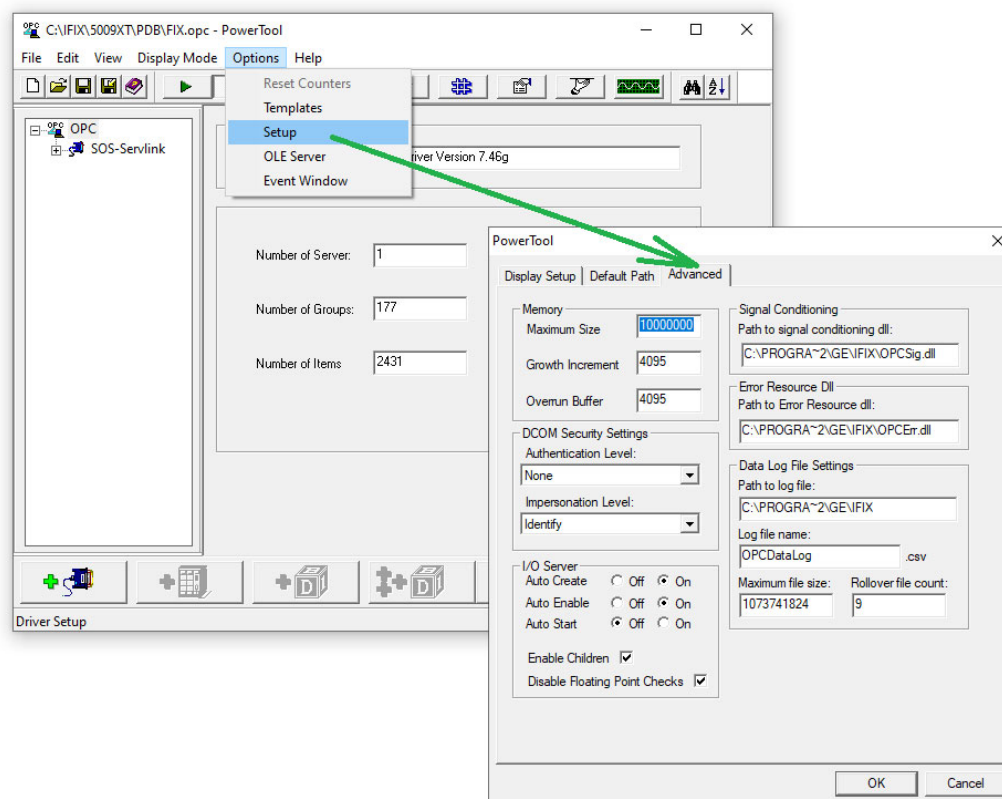

Figure G-8. OPC Power Tool Display Setup
- Replaced Figure G-8 with Advanced page